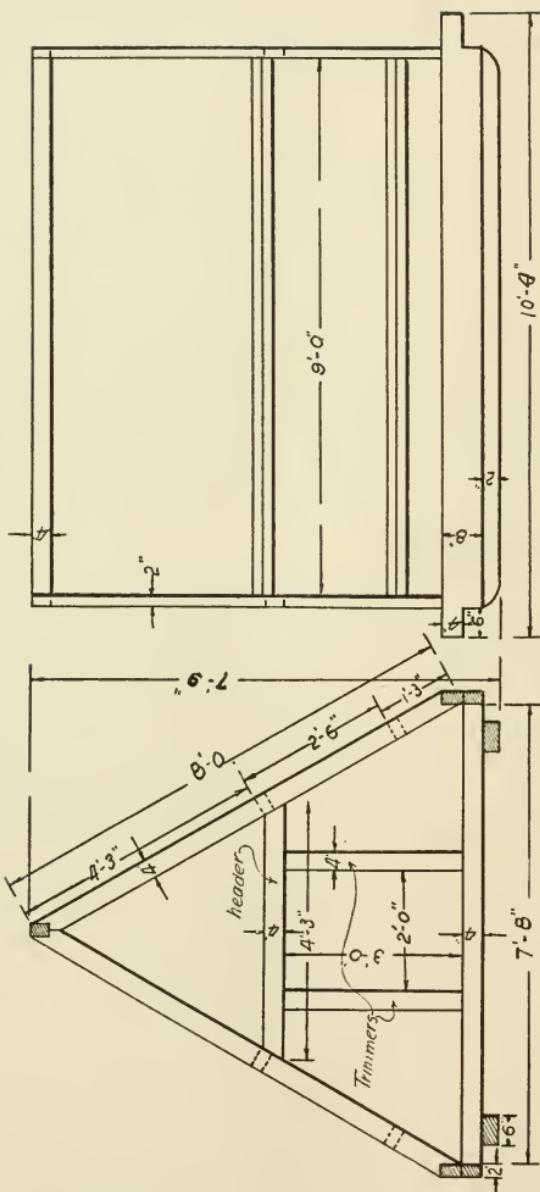

FIG. 104.—WORKING DRAWINGS OF HOG COT.
2. Laying out and sawing the side pieces. — Lay out two pieces $2'' \times 8'' \times 10' 4''$ for the side pieces. Notch each end $4''$ down from the top and $6''$ in from each end, as shown in Fig. 104.